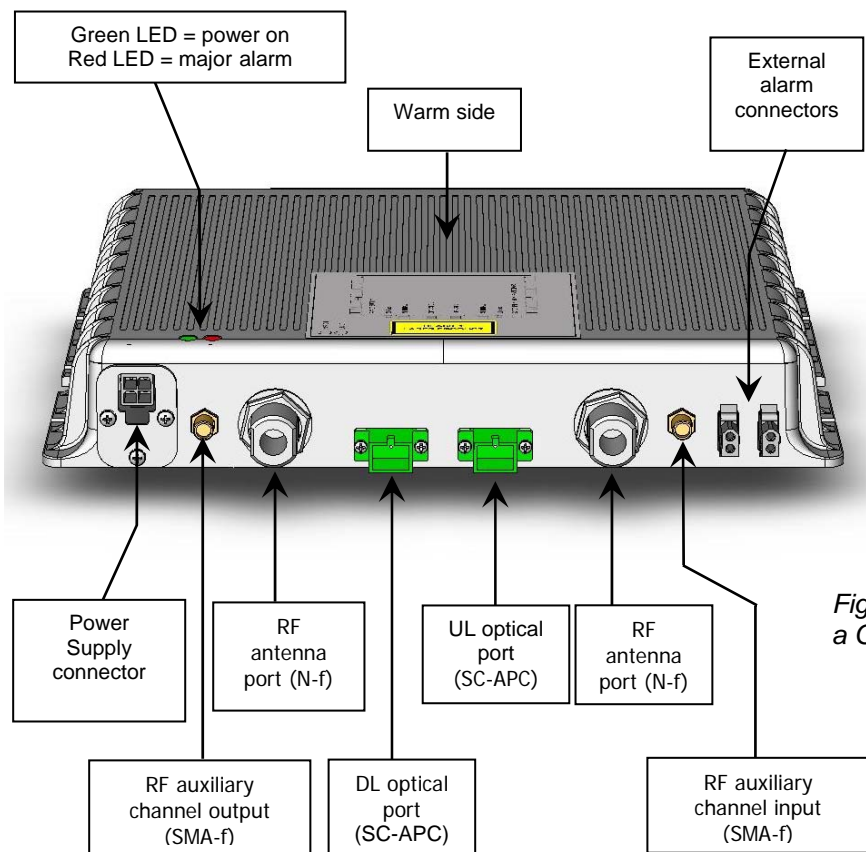

Fig. 3.4: 3D-drawing of a Case A remote unit
7. Connect the antenna RF cables to the RF antenna ports. Connect the UL and DL optical connectors (please refer to fig. 3.4). Apply a 50-Ohm load to the RF which are not connected to any antenna cable.